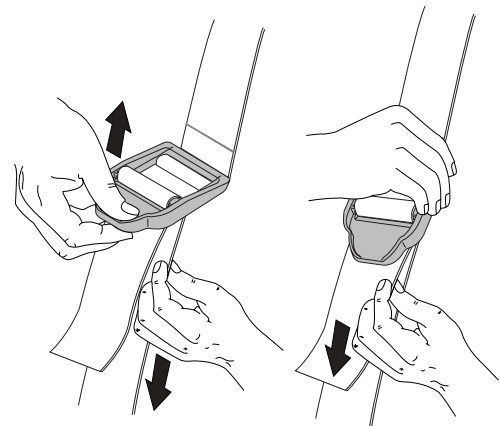

Fig. 8
4. While standing in the operating position with the unit off, adjust length to fit the operator's size. Pull tab to lengthen, pull strap to shorten (Fig 8).